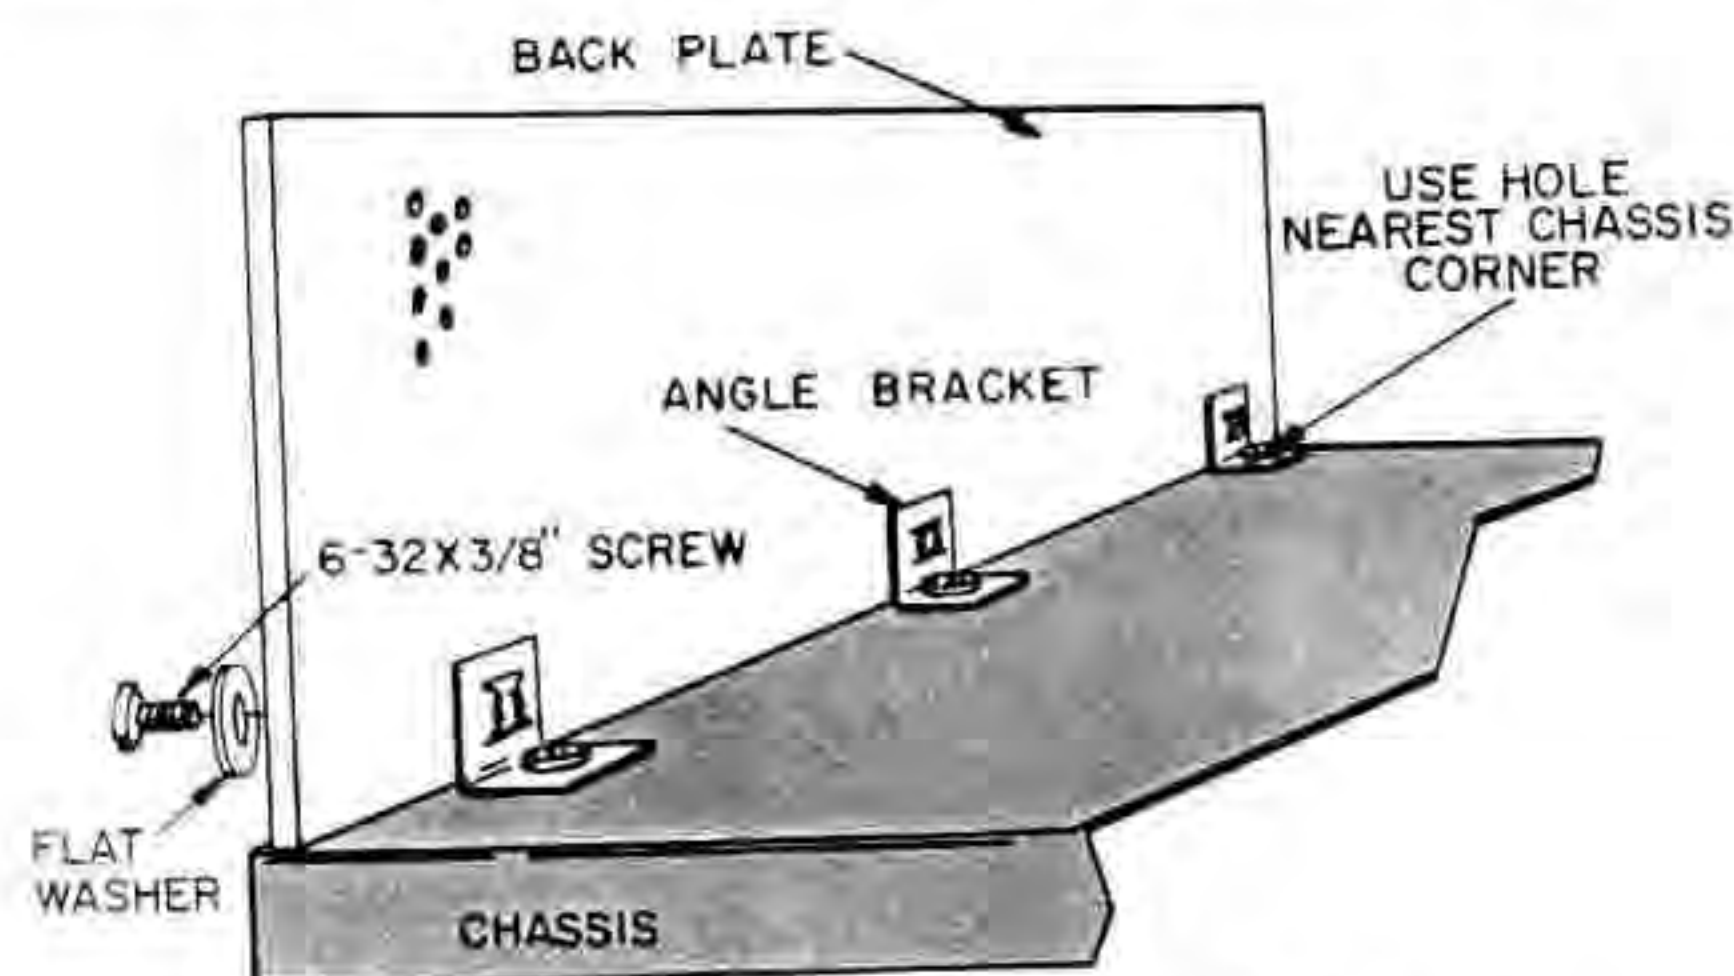

FIGURE 2.
- ✓ 3 angle brackets. Mount on top of the chassis, the upright portion parallel to the rear edge of chassis, with three 6-32 x $\frac{1}{4}$ " screws, lockwashers and nuts, as shown in Figure 2. Use the plain, unthreaded bracket holes for this step.